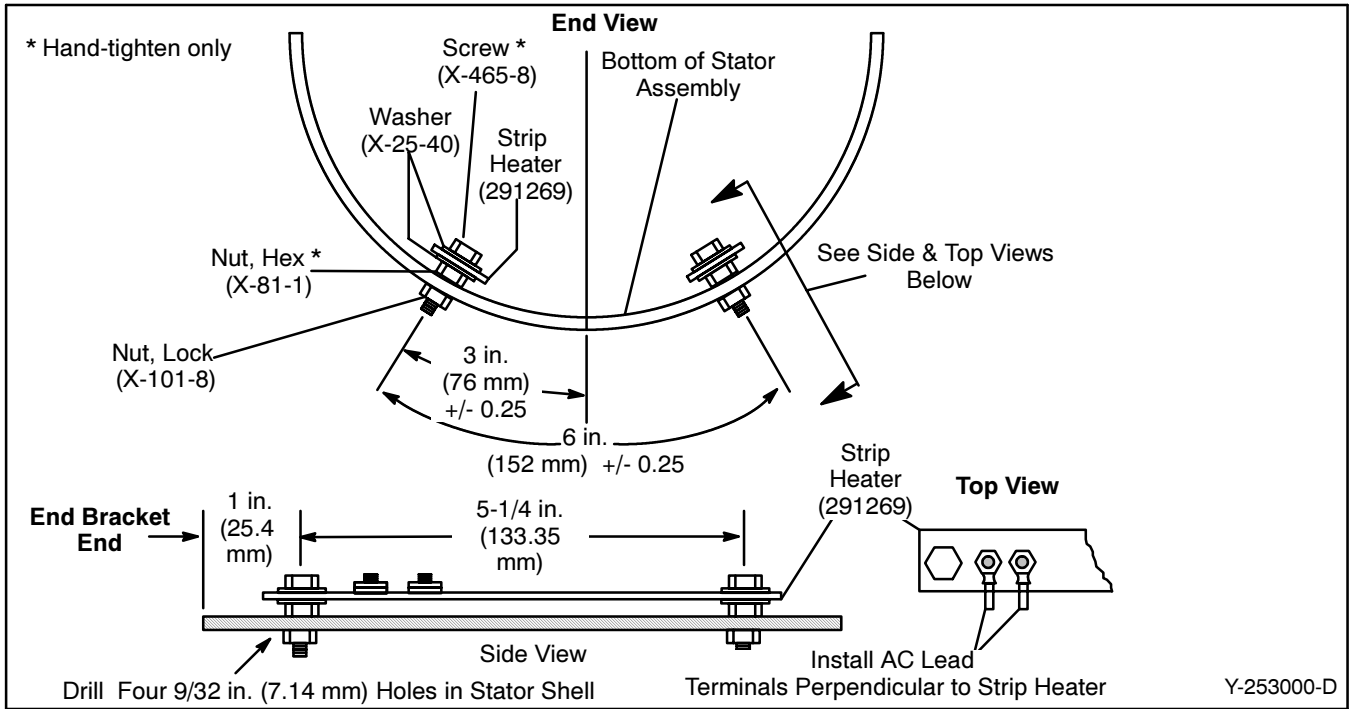

Figure 1. Generator Heater Installation
4. Connect AC leads to strip heaters. Position lead terminals perpendicular to strip heater. See Figure 1.
5. Assemble strip heaters (291269), screws (X-465-8), washers (X-25-40), and spiral lock nuts (X-6210-2) as shown in Figure 1. Install spiral lock nuts so the flange is against the stator shell when assembly is installed. Strip heater terminals must be on the same side as the screw heads. Assemble components hand-tight to allow strip heater expansion and contraction.
6. Secure strip heater assemblies to stator with lock nuts (X-101-8). Position strip heaters with the AC terminals closest to the end bracket of the generator set. See Figure 1.